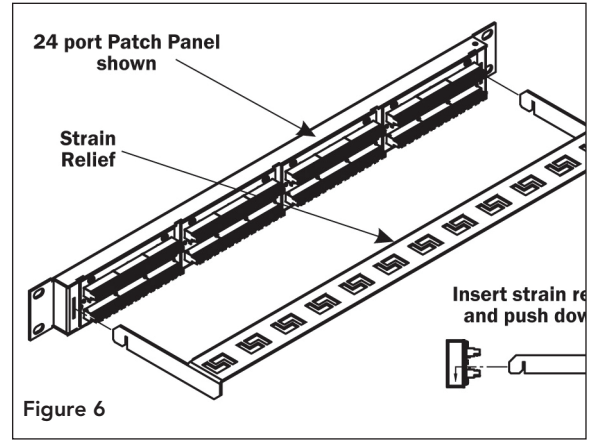

Figure 6
- 4.7 Insert the strain relief bar(s) into the rear of the patch panel in the designated slots as shown. Using the cable tie wraps provided, secure the cables to the strain relief bar. Exercise care not to deform the cable jackets with cable ties. Cable ties must rotate freely about cable bundle. See Figures 6, 7, and 8.